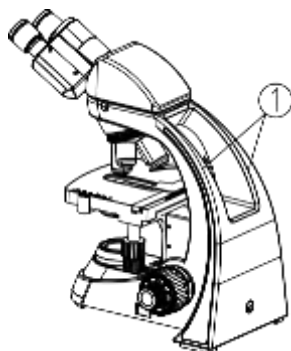

Fig.1
3. When moving the microscope, use both hands to hold its arm①, and lay it down carefully (see Fig. 1).